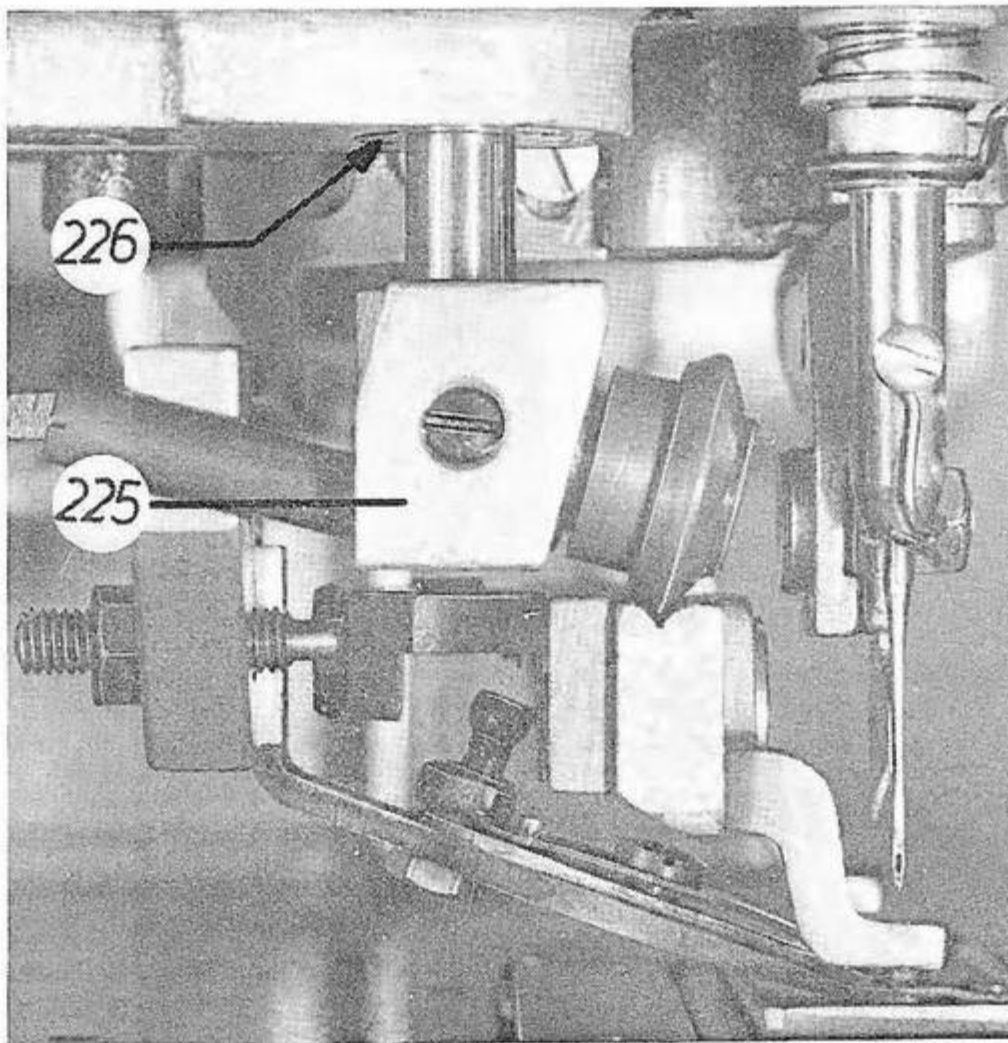

Fig 27
3. When the machine is engaged, i.e. when the lifter tappet 15 is operated, the distance between the block 225 (fig. 27) on the cloth presser bar and the bush 226 of the cloth presser bar should amount to about 0.5 mm (max. stroke).